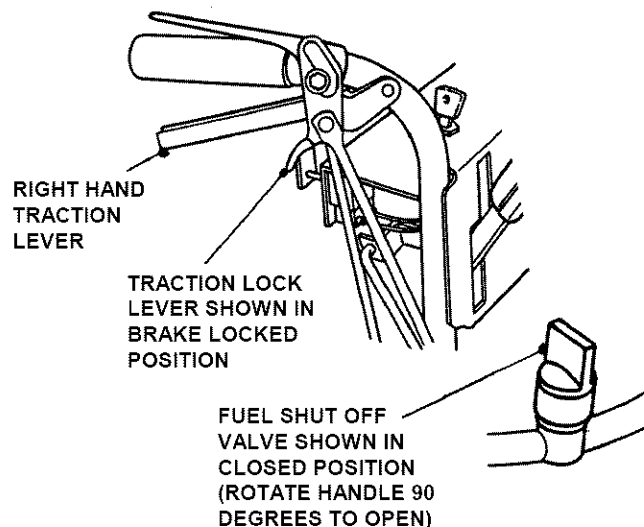

FIGURE 3.3
1. Turn Fuel Shut-Off Valve **ON**. See Figure 3.3.
2. Pull both Traction Levers toward the Handle while pulling Traction Lock Levers rearward until **BOTH** traction levers are **LOCKED** in the Brake Locked position. See Figure 3.3.